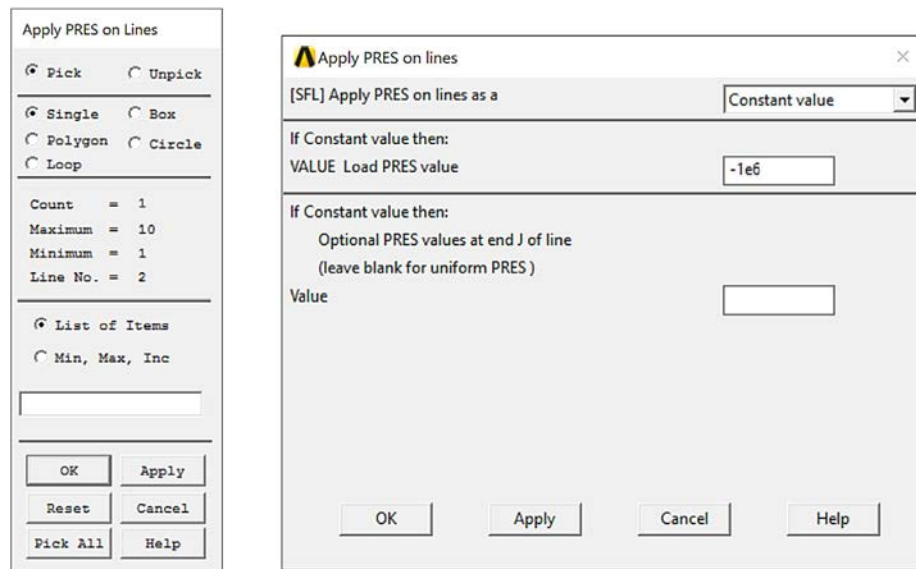

Figure 2-1-14 Applying the Tensile Load as a Pressure.
- Click OK (Figure 2-1-14, left)
- In the first text box labeled “If Constant value then: VALUE Load PRES value” enter $-1e6$ (Figure 2-1-14, right)